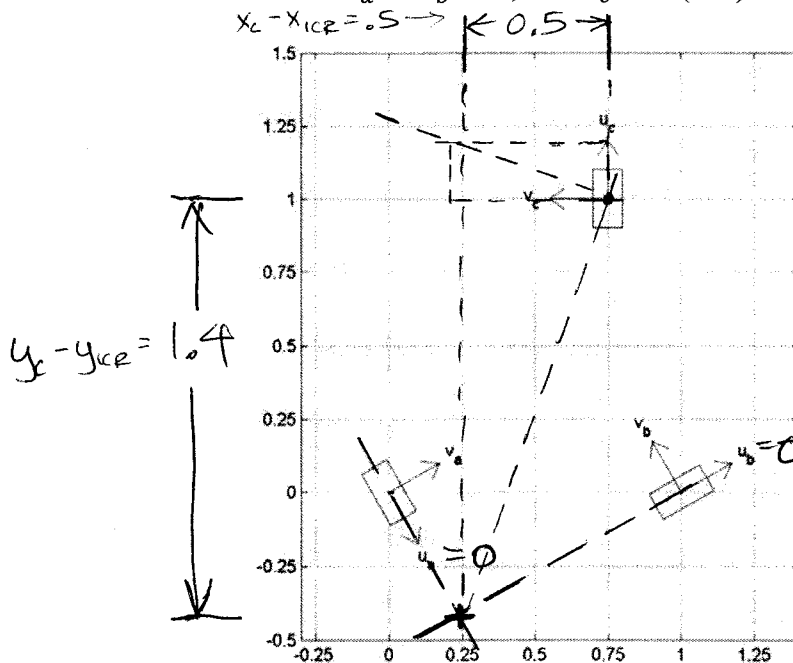

Fig. 3 – Omnibot wheel configuration. (Units are meters.)
a) At what  $(x,y)$  location is the instantaneous center of rotation (ICR)? (Sketching appropriate lines on Figure 3 may be helpful!)